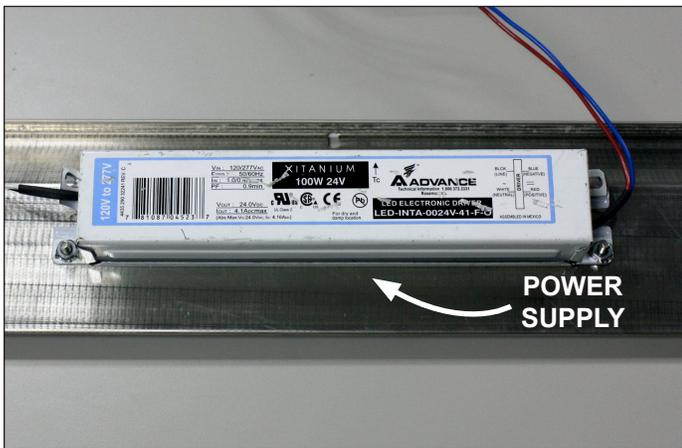

Fig. 27 Clear view of the power supply on the back side of the light reflector
3. Disengage the front edge of the light reflector by lifting it free of the front channel hinge, then carefully remove. Ballasts/power supplies will now be visible on the back-side of the reflector (Fig. 27).